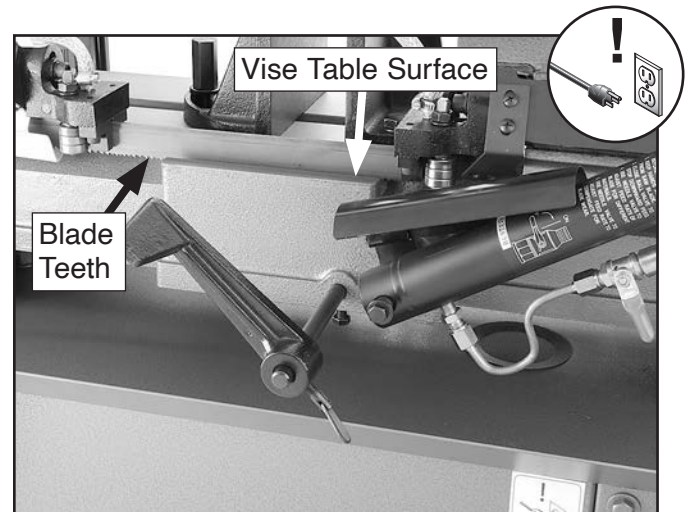

Figure 80. Example of blade below table surface but not contacting vise base.
2. Lower headstock completely. When headstock stops, blade teeth should be just below table surface, but not contacting vise base (see **Figure 80**).